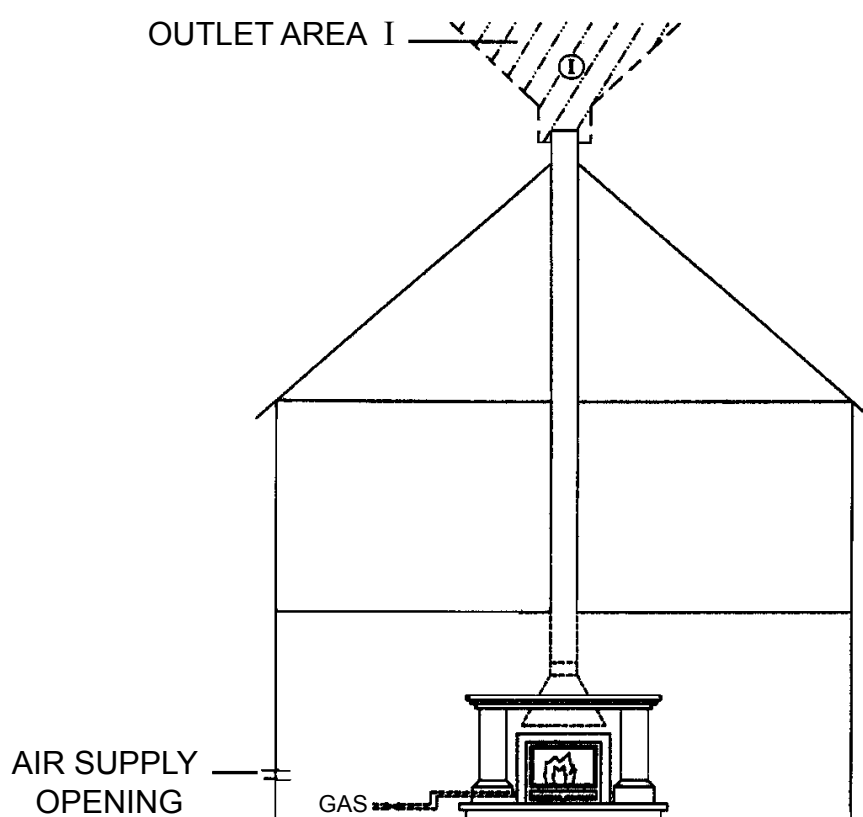

Figure 6: Naturally ventilated house
- 1 NATURALLY VENTILATED HOUSE (see Figure 6).